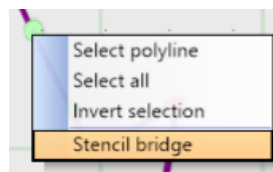
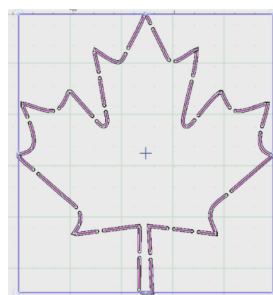

Fig. 8
Fig. 9
9. Select Stencil Bridge from the pop-up menu (See Fig. 8) and a gap is created in the linework (See Fig. 9).